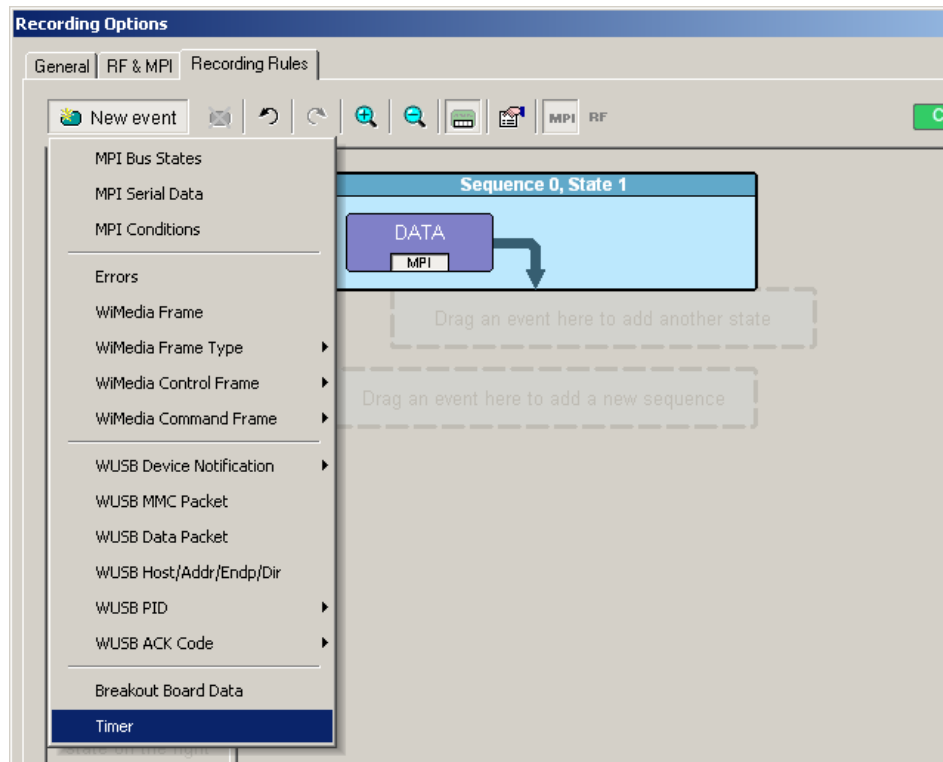

Figure 12.39 Example 5: Creating an Event, Second State
Step 6 Click the **New Event** button. From the drop-down menu, select **Timer** to create a Timer button in the Available Events area (Figure 12.39).